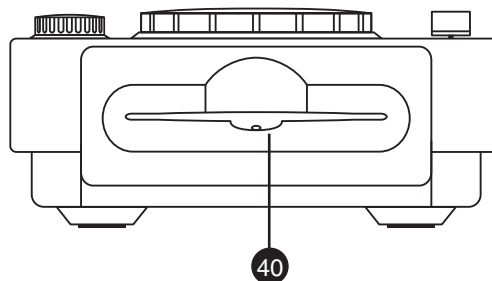

Figure 5
36. HEADPHONE VOLUME CONTROL - This knob will control the volume output level of the *HEADPHONE JACK (35)*.
C. FRONT PANEL (FIGURE 5)